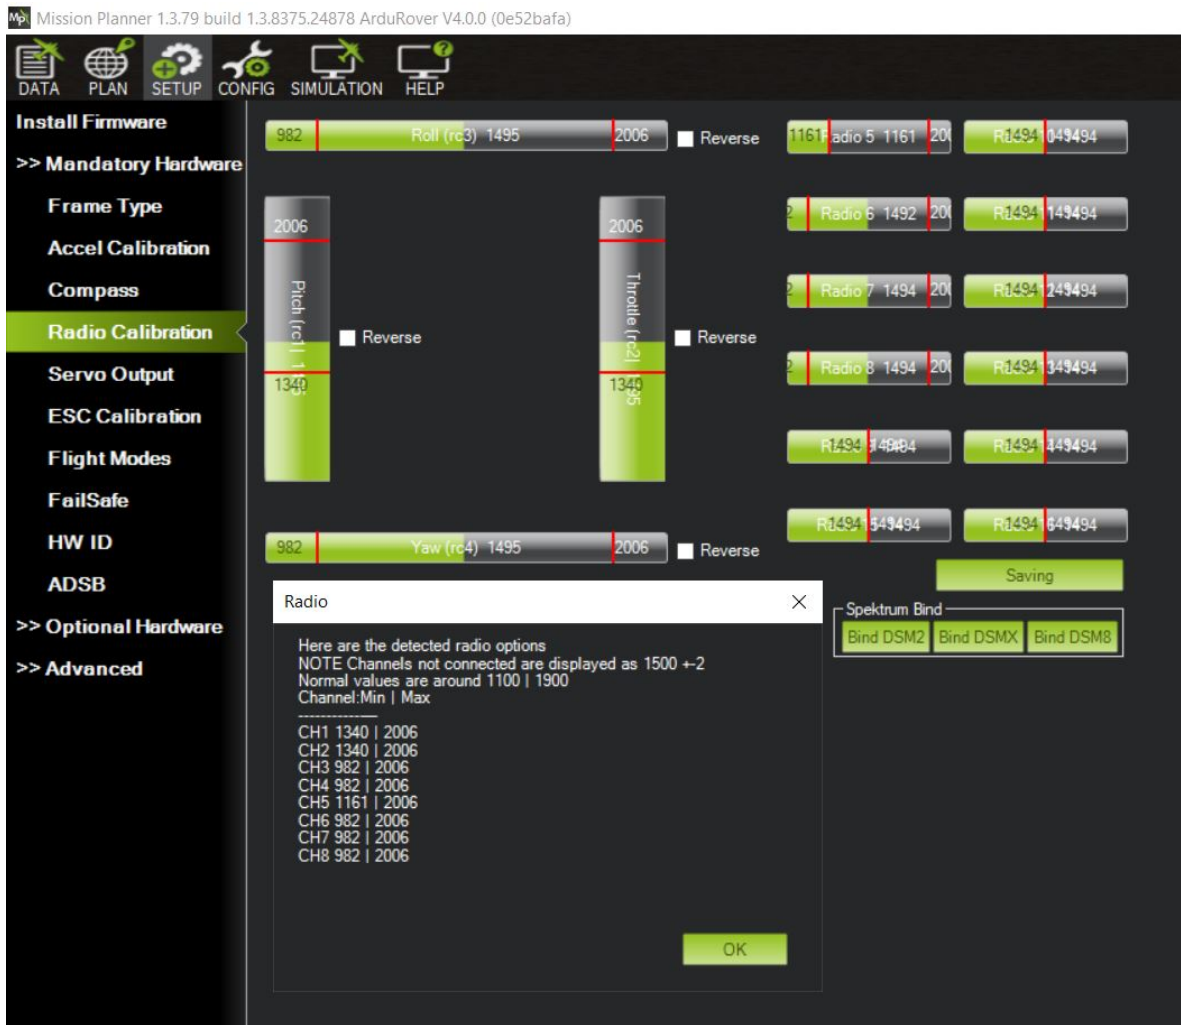

Figure 80: Radio Calibration Verification
13. A page will popup indicating the new min and max values. Press OK. (Refer to Figure 80)